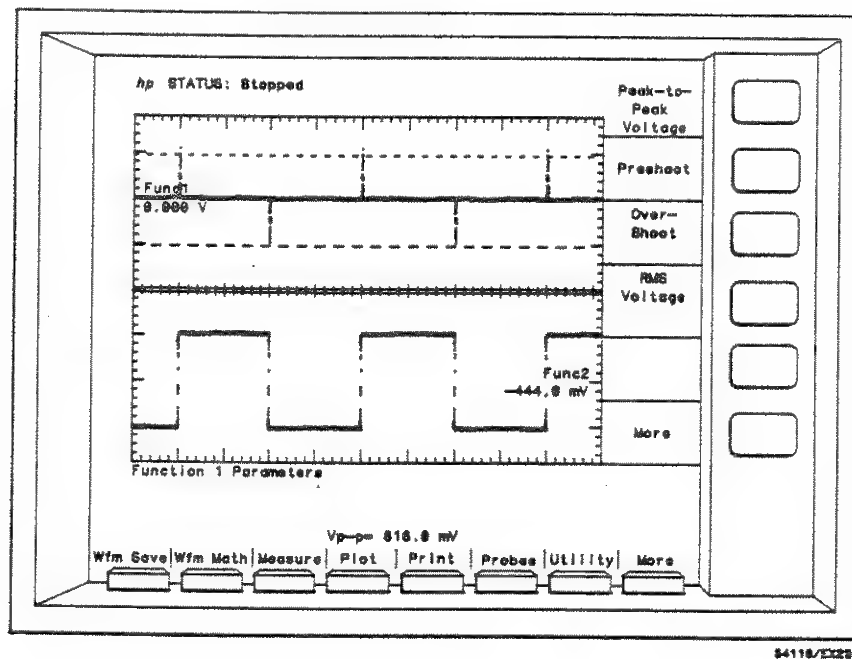

Figure 7-28. Measuring Func 1 Parameters.
5. Press the peak-to-peak key and notice Vmarker appear on the func 1 trace. Press this key repeatedly. (see figure 7-28)